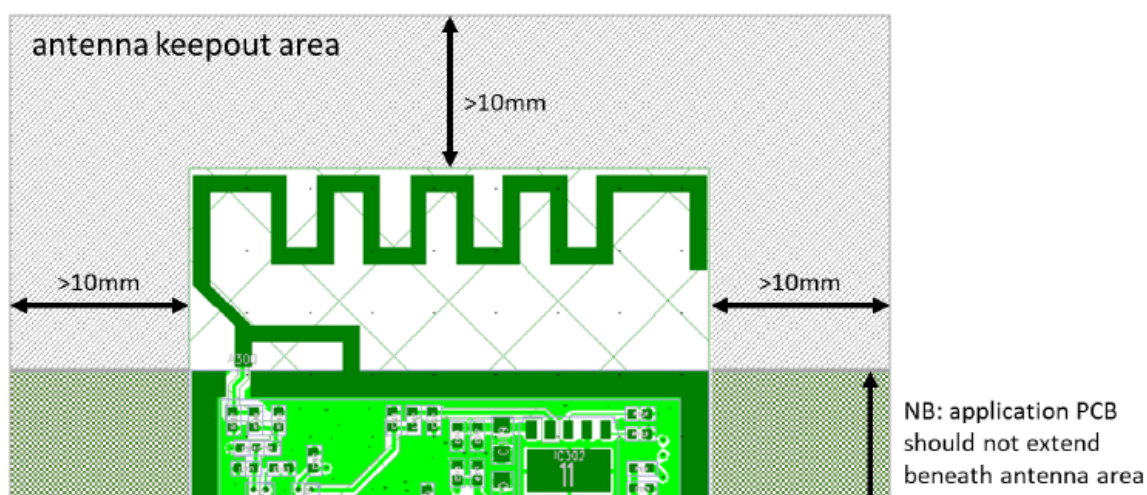

Figure 2: Antenna Layout and Keep-Out Areas
- The application PCB may not extend underneath the antenna area (see Figure 2)
- No metal objects should be placed in the vicinity of the antenna (see Figure 2)